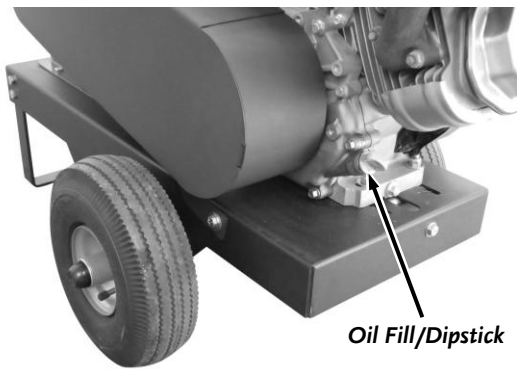

Figure 9
1. Place the machine on a level surface and remove the Dipstick (clean the end of the Dipstick with a rag) (Figure 9).